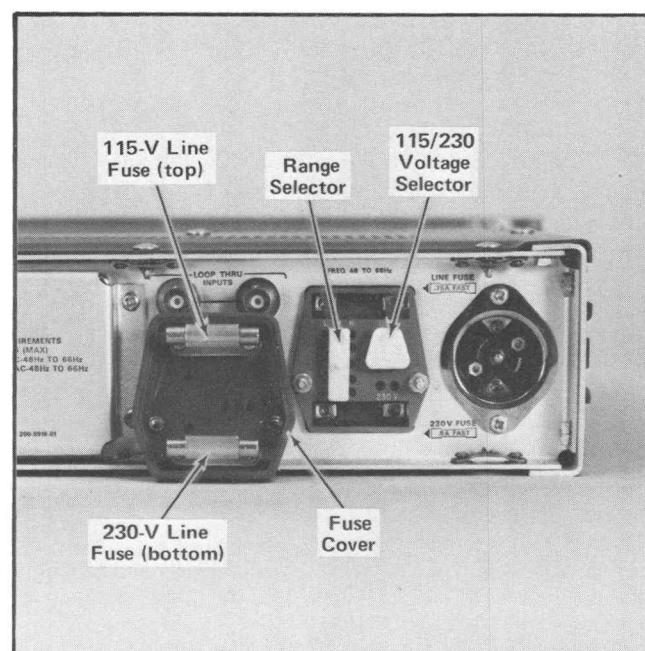

Fig. 2-1. Location of Range and Voltage Selector plugs with fuse cover removed. The plugs as shown are set for 115-V medium range operation.
3. To convert to a different line voltage (115 to 230 V), pull out the 115/230 Voltage Selector plug. Rotate the plug 180° and insert it into the opposite set of holes. The 115/230 Voltage Selector plug is located in the upper position for 115-V operation and in the lower position for 230-V operation. (See Fig. 2-1.)